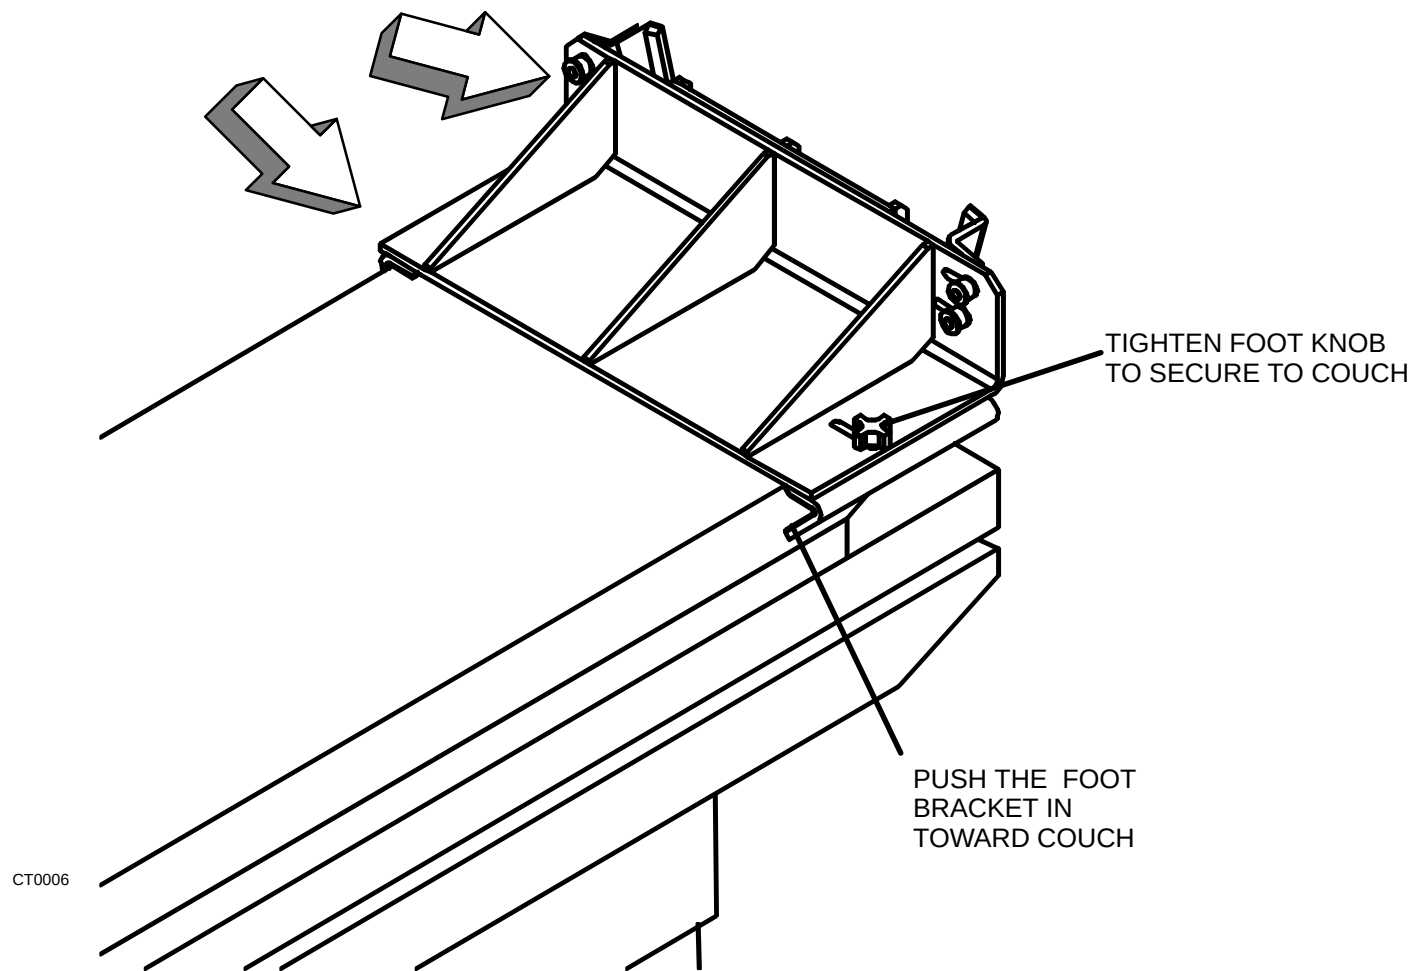

FIGURE 79 SECURING NEW PHANTOM SUPPORT TO PATIENT SUPPORT
4. With both feet underneath the edge of the couch top and the front of the support flush to the patient couch, place your left hand on the left corner of the support and slide unit toward you. Make sure the front overlay piece of the support remains flush to the front of the couch. Refer to Figure 79.
5. The front and left side of the phantom support should now fit snug to the patient couch. Hold the phantom support in place with your left hand. With the right hand, push the right foot bracket in toward the patient couch and tighten the right foot by turning the adjustable knob clockwise until the foot fits snug to the right side of the patient support. Refer to Figure 79.